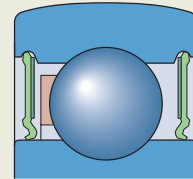

Fig. 25
- are fitted in a recess on the outer ring (fig. 25, designation suffix VP076)